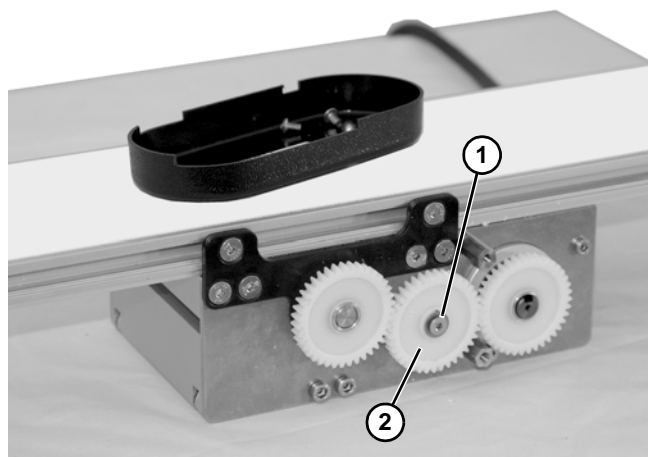

Figure 30
8. Remove screw (**Figure 30, item 1**) and washer from center gear (**Figure 30, item 2**).